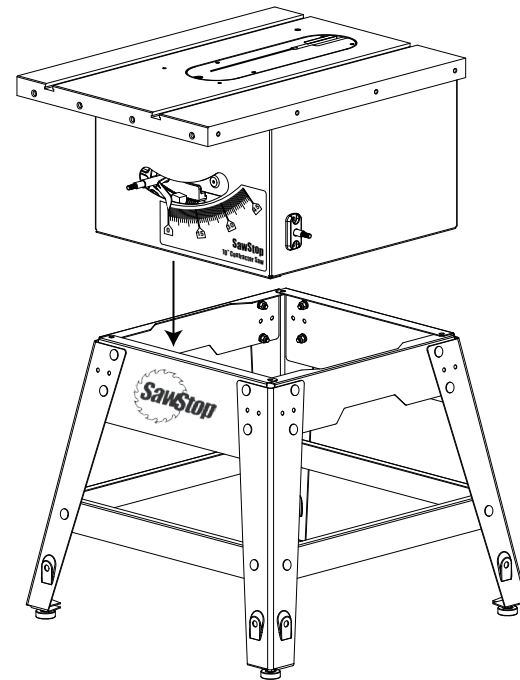

Fig. 11
- With the help of an assistant, pick up the saw and carefully set it on the assembled stand with the front of the saw above the front panel of the stand (see Fig. 11). Align the mounting holes in the bottom corners of the saw with the mounting holes in the top corners of the stand. While moving the saw do not set it down in the upright position on a solid surface because the dust shroud can be damaged.